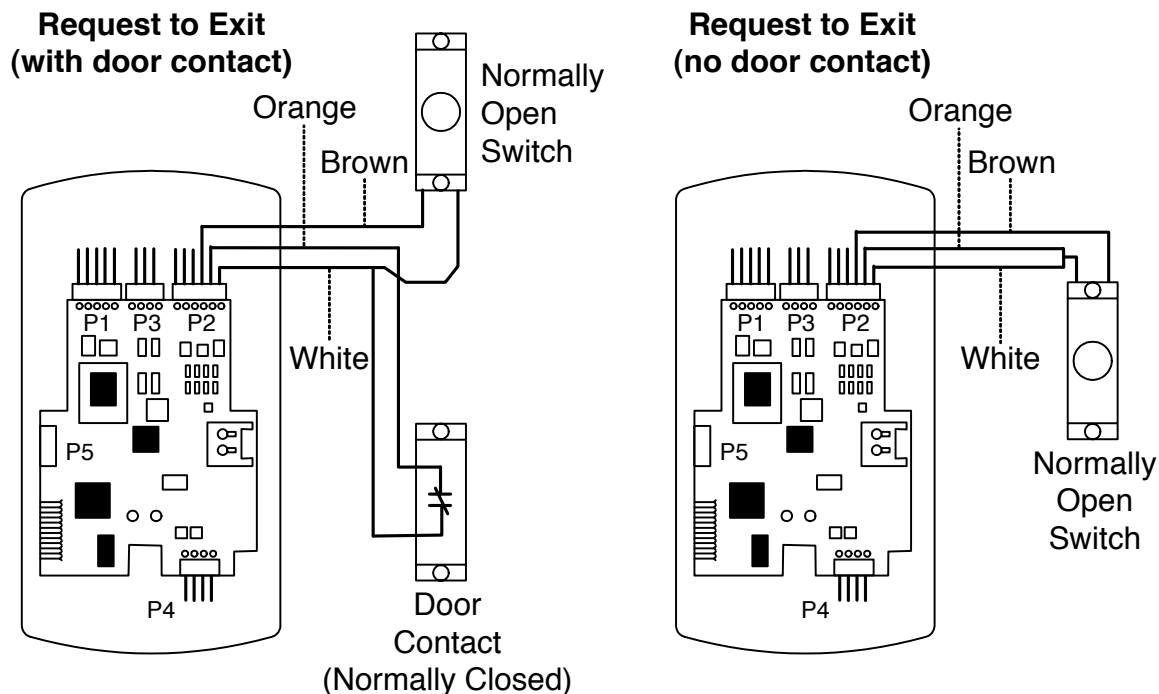

Figure 16 Wiring the REX Switch
Other REX devices can be used to include a remote button placed at a receptionist desk, a press-to-exit switch on the inside of a door, or a passive infrared detector, allowing free and convenient egress. The external REX feature requires no programming; simply wire the unit as illustrated in Figure 16. To incorporate this feature, follow the steps below:
3. Plug the 6-conductor harness into connector P2. (NOTE: The 2-pin jumper on pins 5 and 6 of connector P2 must be removed first. See Figure 16.)
4. **If you do not wish to install the door contacts per Figure 16, twist the white wire and the orange wires and wire nut together. This is mandatory. If this is not done, the REX input will not function.**